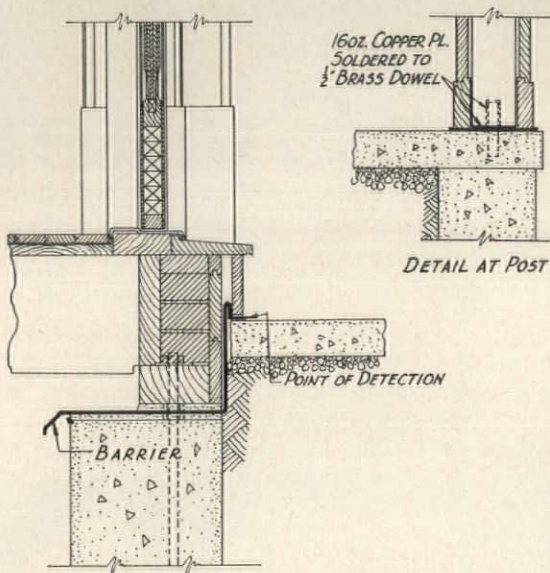

FIGURE 7
**DOOR SILL** Figure 7 shows another combination shield applied under a door sill adjoining a concrete (or brick) porch. A deflector type is used on the outside because of ease of inspection, while the inner one is a true barrier type. Note that the shield is bent up behind the kickboard to form a water stop. The detail at the upper right illustrates a deflector shield inserted under a wood post resting on a concrete (or brick) porch.